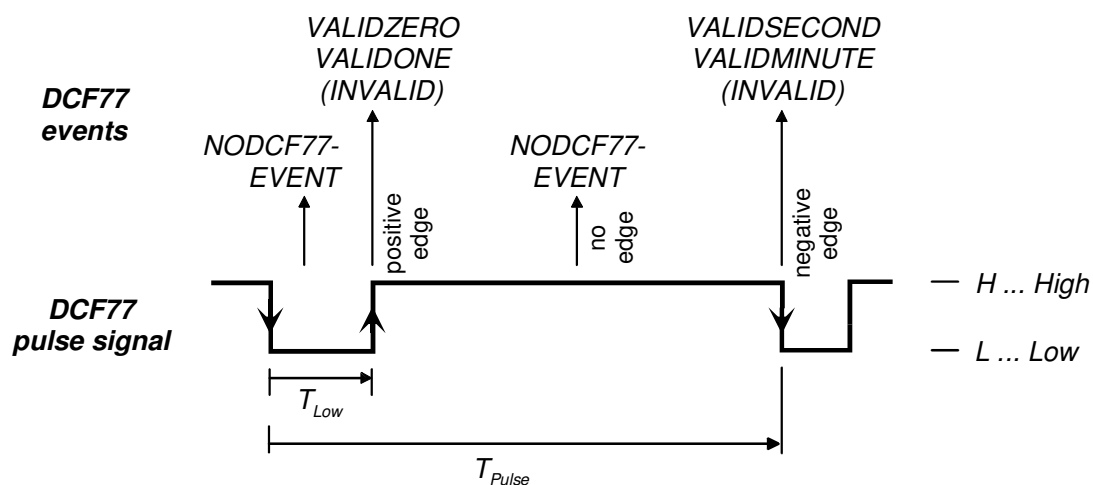

Fig. 4.3: DCF77 events
- The DCF77 signal is sampled in a new function **sampleSignalDCF77()** periodically every 10ms, i.e. **sampleSignalDCF77()** will be called in the timer ISR. The edge detection is done by comparing the current value of the signal with the value of the last sample. Times  $T_{Low}$  and  $T_{Pulse}$  (Fig 4.3) are measure via software timer **uptime** (see above), which is passed as parameter, when the function is called. Rather than using the timer module's TCNT register, which has a relatively short period, the software timer has a much larger period of 65536ms. **sampleSignalDCF77()** detects the positive and negative edges and measured times and converts them into "events" stored in global variable **dcf77Event**: